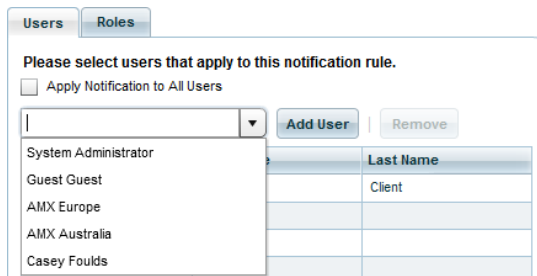

FIG. 338 Selecting Users (Edit Notification Rule dialog - Recipients tab)
- Otherwise, click the down arrow to select from the drop-down menu of Users (FIG. 338).